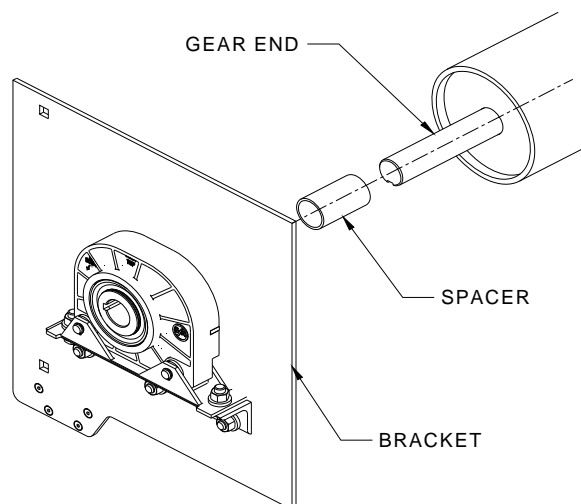

Figure 6.2 – Barrel Markings (right hand operation shown)
- Prior to installing brackets onto the shaft, install the provided spacers onto the shaft. See **Figure 6.2** below.